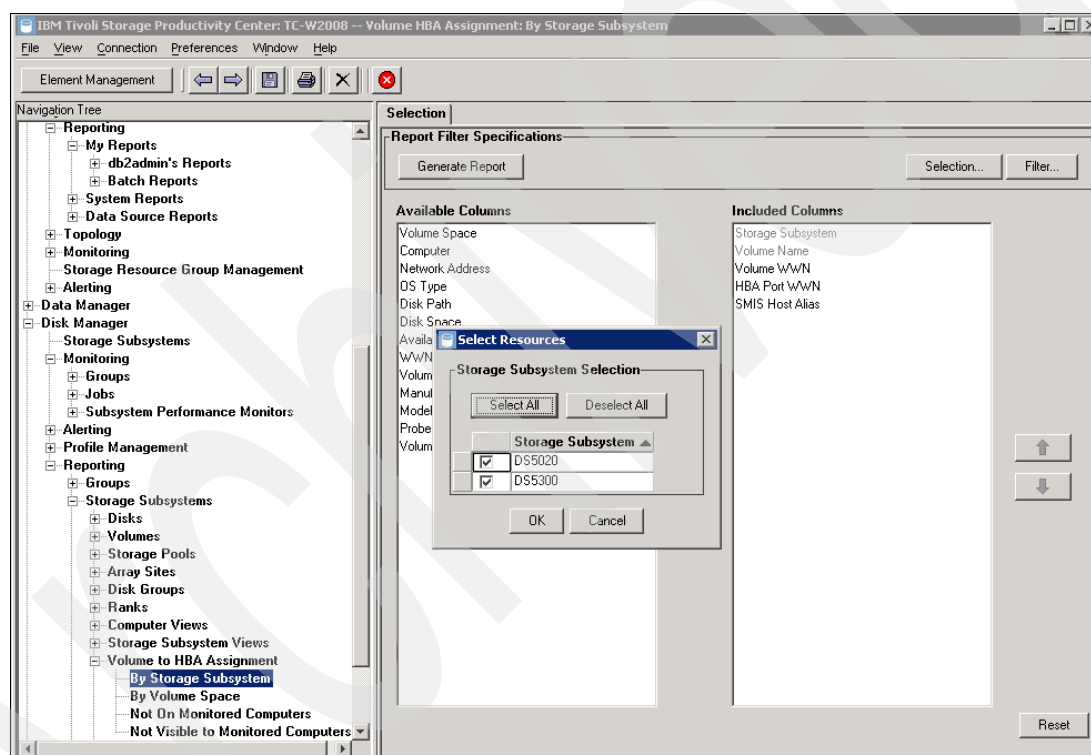

Figure 9-39 Volume to HBA assignment, select storage subsystems
1. Expand **Disk Manager** → **Reporting** → **Storage Subsystems** → **Volume to HBA Assignment** → **By Storage Subsystem**. Remove unnecessary information from the Included Columns into Available Columns, and click **Selection** to select the storage subsystems for which you want to create this report. In our example, we only include Volume WWN, HBA Port WWN, and SMI-S Host Alias, and selected one DS5300 and one DS5020 among the list of storage subsystems known to our TPC environment, which is shown in Figure 9-39.